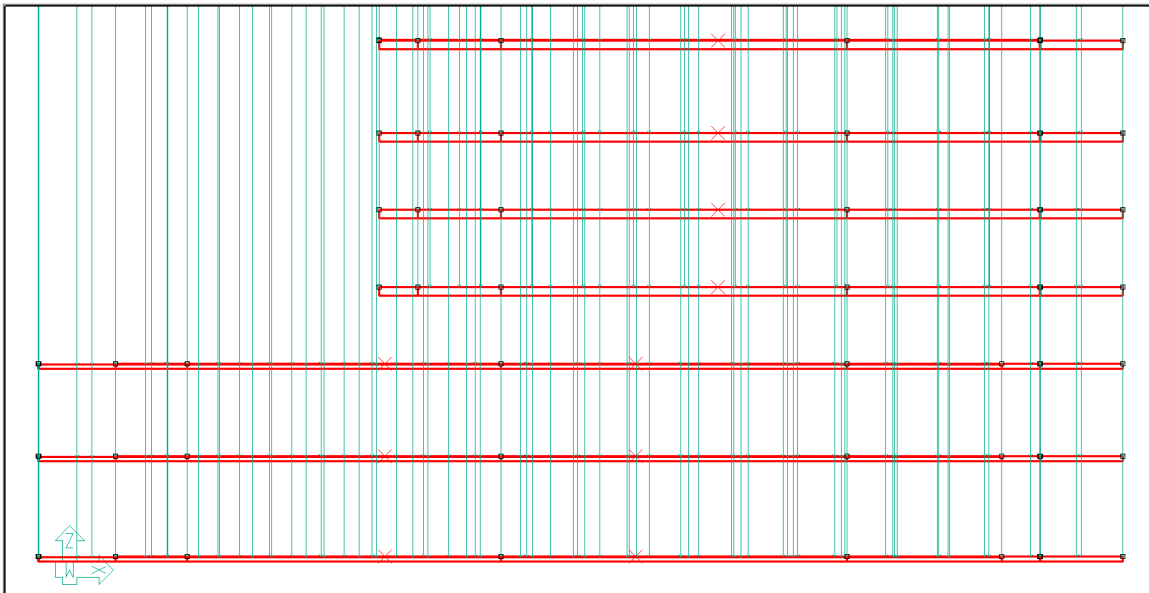

FIGURE 8-5
- The user will now see green lines representing the projection of the load as shown in **FIGURE 8-5**. We have applied a 25psf area load to each of the structure's slabs.